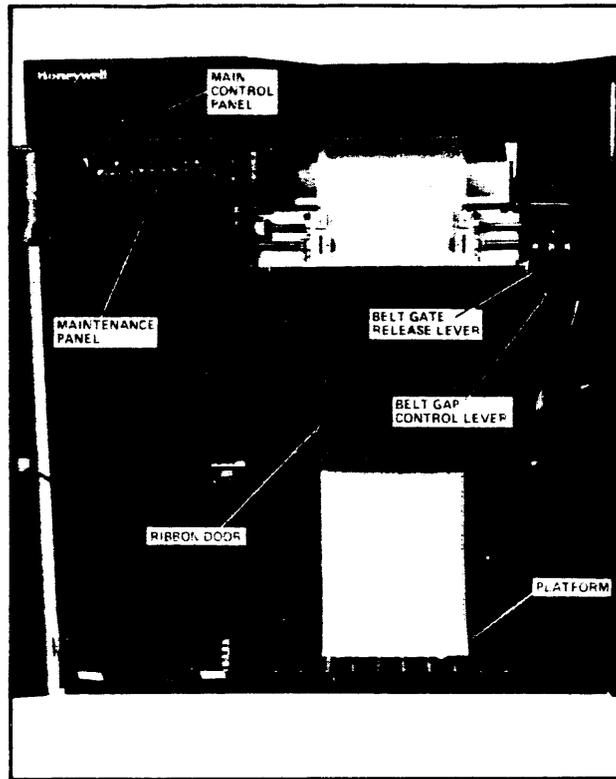
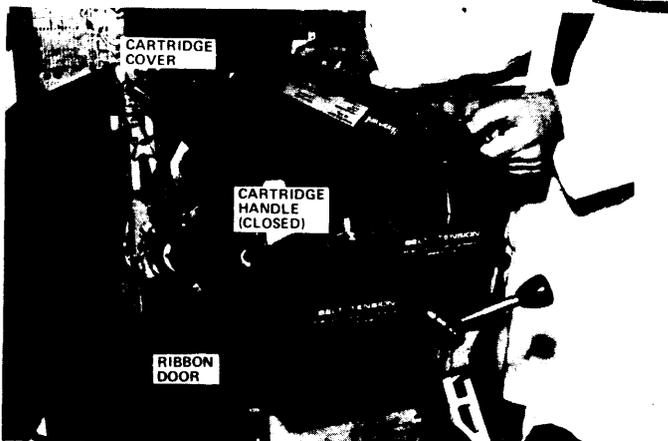

Figure C-20
Figure C-37
3. To gain access to paper track, open both front doors and then open belt gate by pulling release lever on right-hand end of gate (Figure C-20).
4. Remove paper from box and then place paper on platform (Figure C-20).
1. Open front doors and then open ribbon door, which covers front of belt gate (Figure C-20) by pulling on right-hand side. (The ribbon door separated from the belt gate is shown in Figure C-37).
4. Close cartridge cover to protect belt and also to gain access to cartridge handle (Figure C-37).